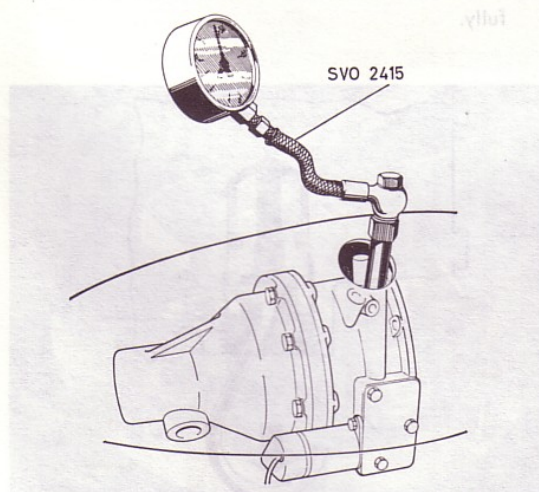

Fig. 8. Checking the oil pressure
2. Remove the plug over the operating valve and connect pressure gauge SVO 2415 as shown in Fig. 8.
- N.B. The operating valve spring (49), spring plunger (52) and ball (53) should remain in position.